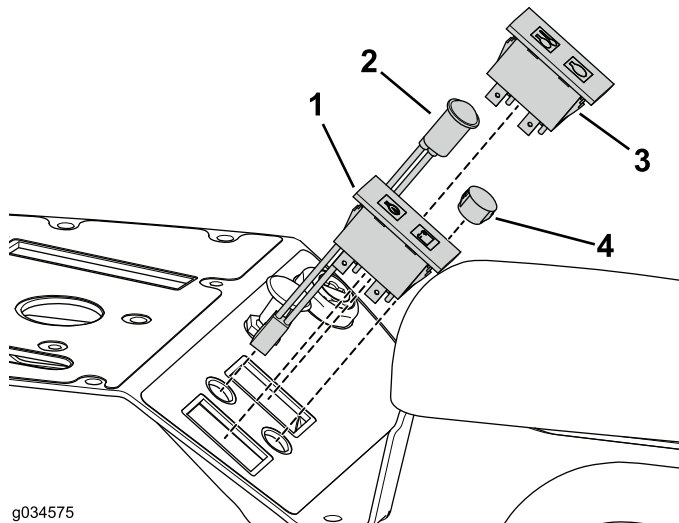

Figure 10
1. Remove the warning indicators from the console assembly, if equipped (Figure 10).